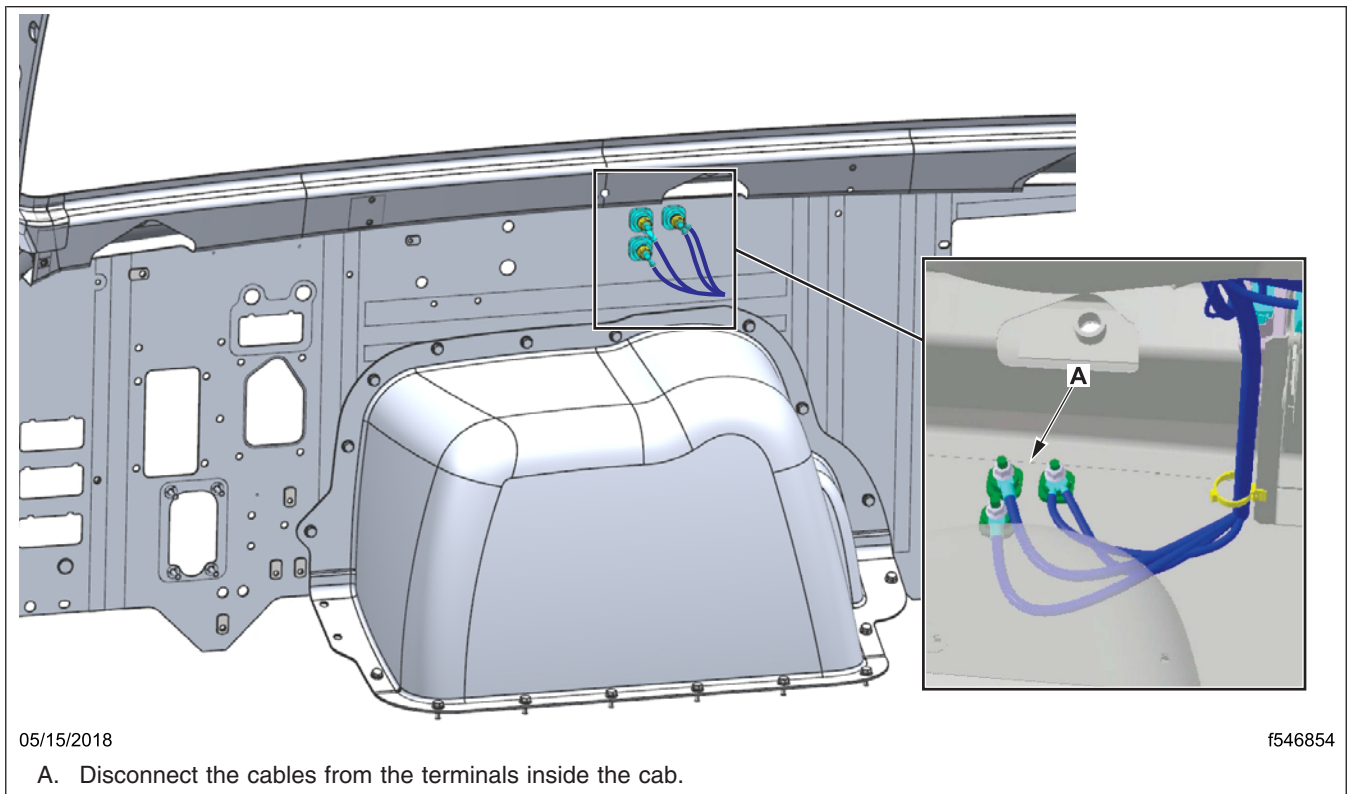

Fig. 5, Location of Front-Wall Power Terminals (inside the cab)
7. Disconnect the cables from the terminals inside the cab. See **Fig. 5**